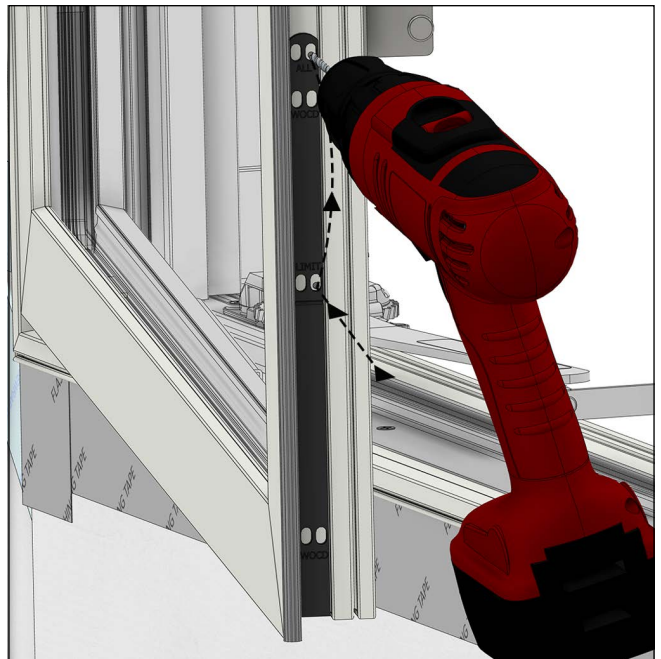

Figure 8 Pre-drilling Sash Holes
2. Use a 7/64" (3) drill bit to pre-drill the hole locations closest to the interior labeled ALL and LIMIT. See Figure 8. Be sure not to drill deeper than 7/16".